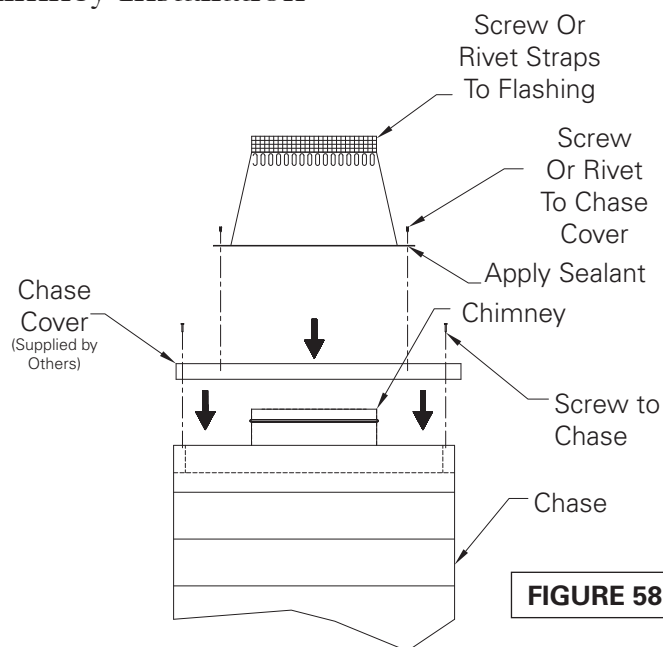

FIGURE 58
8. For chase enclosures, install the chase top cover (supplied by others) to the chase enclosure. Cut a hole in the chase top cover the same diameter as the base of the cone on the flashing. Attach the Flashing to the top of the chase cover, sealing with a non-hardening waterproof sealant. Secure in place with screws or rivets. **(Figure 58)**